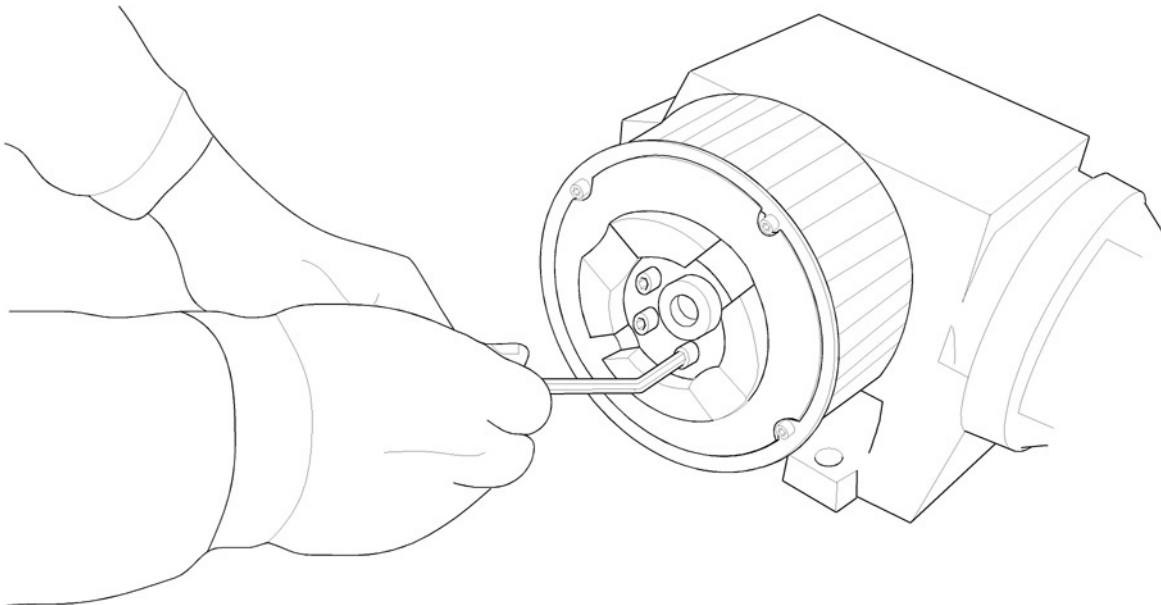

Fig. 5-7 Removing the pulley screws
10. See Figure 5-7. remove the screws that attach the pulley to the motor.